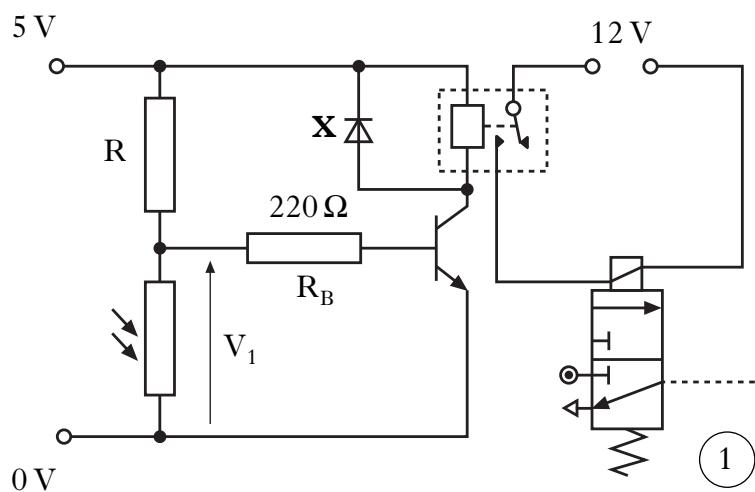

Figure Q10
10. A circuit used in a factory production line is shown in Figure Q10.